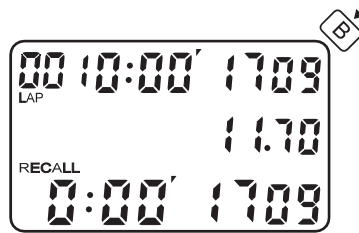

Fig. 17
- Press B to get the 1st LAP time at the top row and the speed at the middle row, as shown in Fig.17. If for example the distance is set to 200 meters and time unit set is in seconds, the speed calculated from a LAP time of 17.09 seconds is 11.70 m/sec. Using the B button the LAP times and their corresponding speeds can be displayed. Recall operations in the SPEED mode are the same as that in the LAP/SPLIT mode.